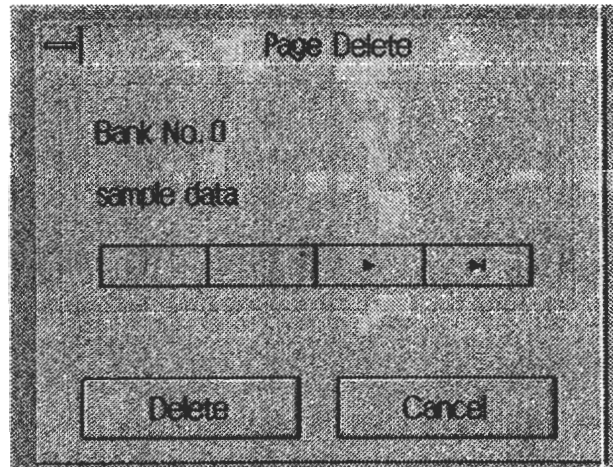

Figure 7-13
- Click on "File" in the window and then "Bank Delete (D)" in the pull-down menu. The "BANK Delete" dialog (Figure 7-13) is opened. Select one or more unwanted BANKs and click on "Delete". After the files have been deleted, the informational dialog appears.